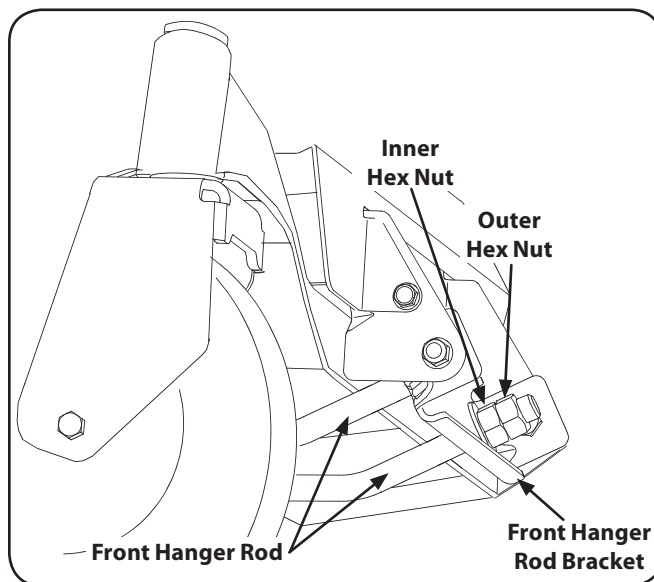

Figure 6-6
5. From the front of the tractor, loosen the outer hex nuts on the deck front hanger rod and turn them away from the inner nuts. Refer to Figure 6-6.
6. If the front of the deck was too low, turn the inner hex nuts clockwise against the hanger bracket to shorten the front hanger rod and raise the front of the deck. Refer to Figure 6-6.